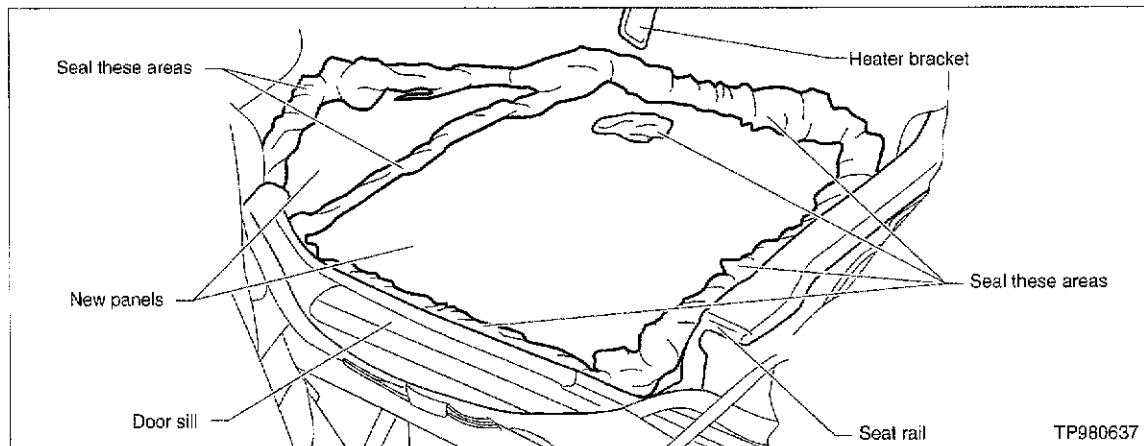

Figure 7
21. Once the primer is dry, apply sealer (Lord® Chemicals Fusor® Urethane sealant P/N 800 or equivalent)* to all edges of the repair, both top and bottom (see Figure 7).